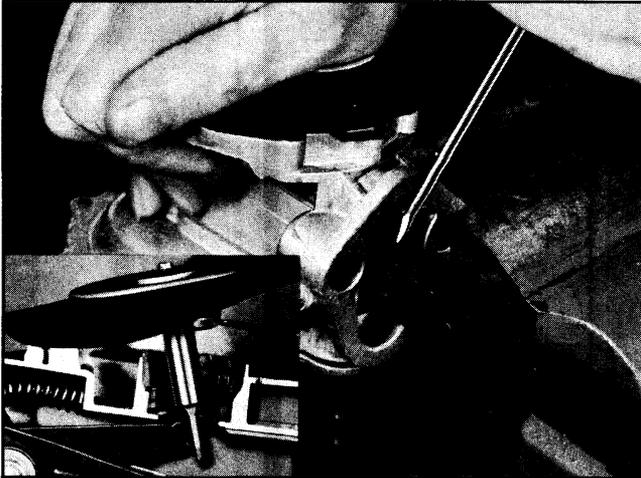

Fig. 8-66 Removing Fuel Diaphragm
4. Press down on fuel link as shown in Fig. 8-66 and push straight down on diaphragm, then tilt upward on side opposite lever to disengage pull rod from the fuel link, then remove diaphragm, spring, and spring seat.